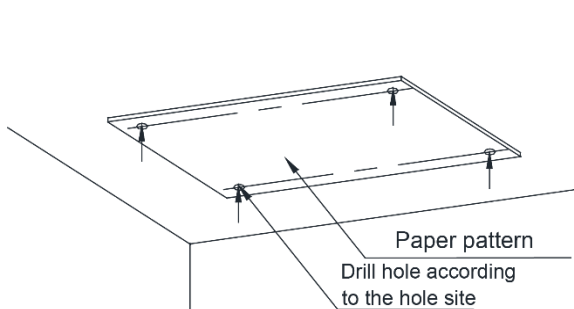
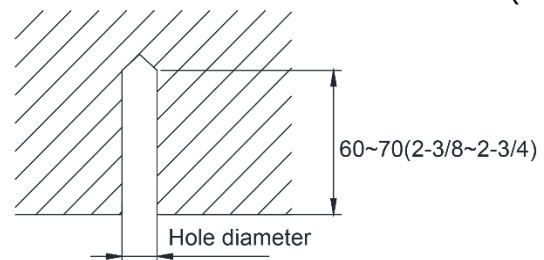

Fig. 4.9
Fig. 4.10
1) Stick the installation template at the installation position flatly, drill 4 holes at the installation position basing on the installation template. As shown in fig. 4.9. Please refer to the diameter of expansion bolt for the diameter of hole with depth of 60-70mm (2-3/8~2-3/4in.). As shown in fig. 4.10.